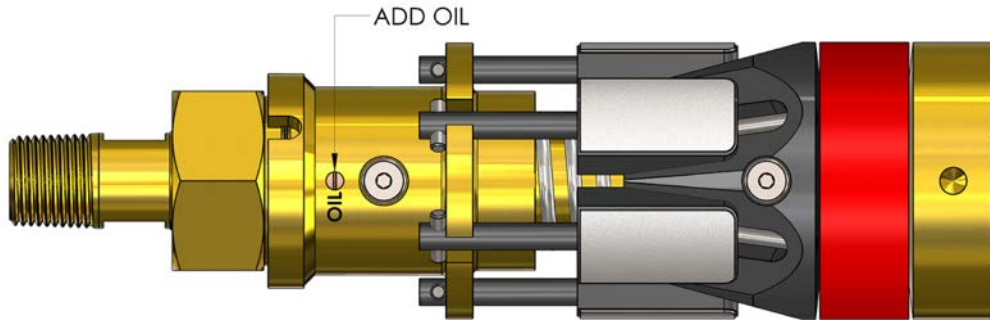

Figure 4: Adding Oil to the ORB Spring Plate's Oil Hole
- 5.1 Before use, apply 3-4 drops of mineral oil into the hole marked "OIL" on the ORB Spring Plate (3). Refer to Figure 4 for guidance.